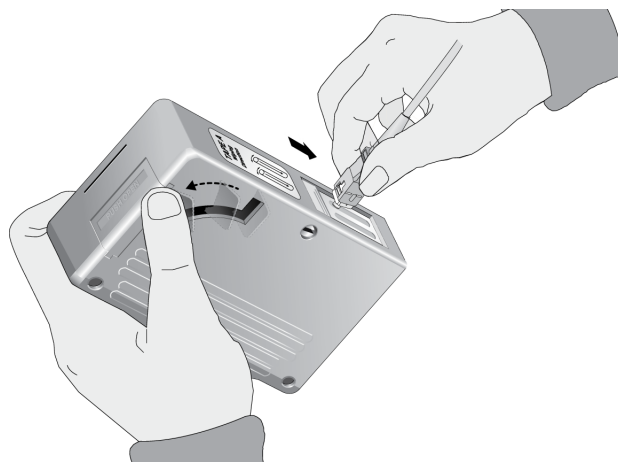

Figure 44. Rubbing the Ferrule Tip on the Cleaning Surface
2. Place the ferrule tip on the exposed cleaning surface and rub the ferrule in a downward direction, as shown in Figure 44.
1. Insert the swab into the adapter as shown in Figure 44 and rub the ferrule tip with the swab.